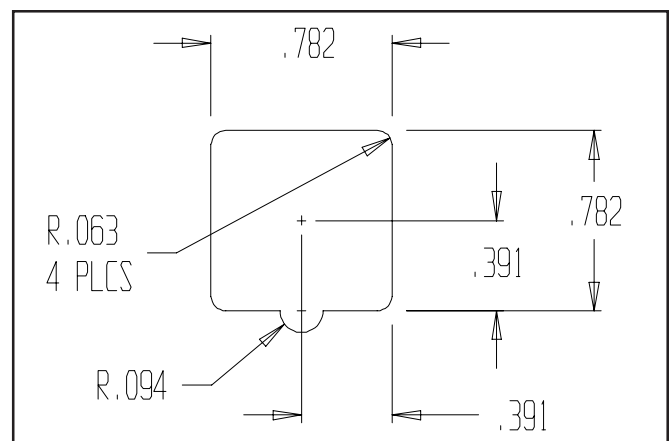

FIG. 7
**STEP 4.** Fabricate T.V. cable bracket using 0.090 - 0.125 in. sheet metal (see Fig. 7) for the adjuster housing cut-out dimensions. If you use the thicker stock a chamfer